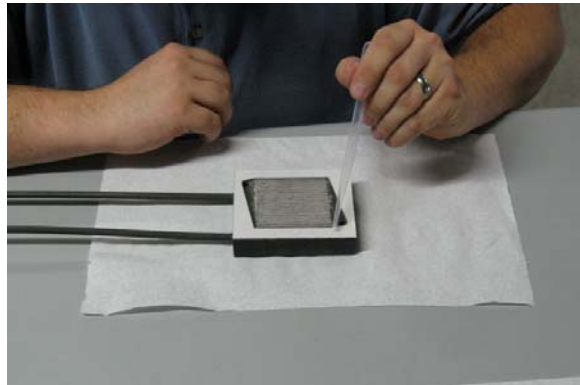

Figure 3
- Make certain to apply seals to both manifolds before moving to Step 3(Figure 3)